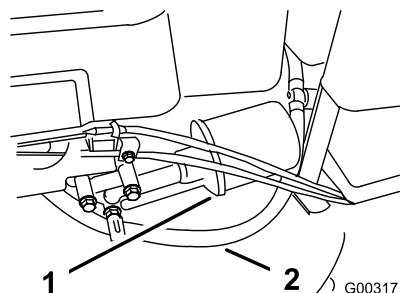

Figure 24
Replace the oil filter (Figure 24) after every 100 operating hours or yearly, whichever comes first.
4. Disconnect the fuel line (Figure 24) by loosening the tube clamp at the carburetor.